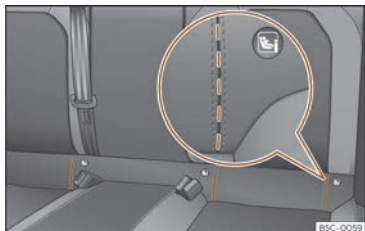

Fig. 27 Rear seat: die cut slots to access the ISOFIX / iSize securing rings.
rear seat backrest and the seat cushioning »» **Fig. 27**. The Top Tether rings are located on the rear part of the rear seat backrests (behind the backrest or in the luggage compartment)»» page 38 .
- Open the cut-out section behind the marked grooves to access the retaining rings >>> Fig. 27.